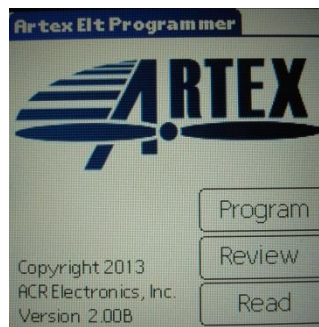

Figure 7: Artex Software Main Screen
2. The Artex main screen is shown in Figure 7.